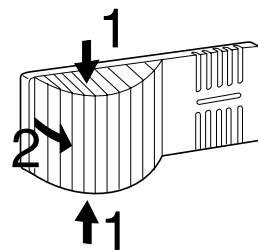

Figure 31
- Press the light cover together at the sides (Fig. 31, 1). Lift it out and unclip at back (Fig. 31, 2).